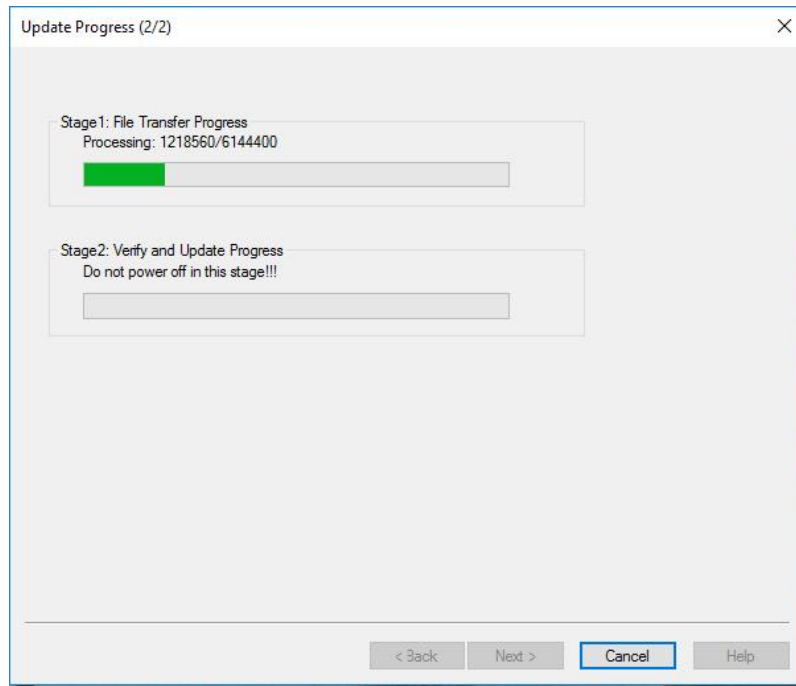

Figure 3.10 Update Progress of the firmware update
- The firmware is updating in progress as shown in Figure 3.10 below. Do not power off the receiver during the verification and update progress.